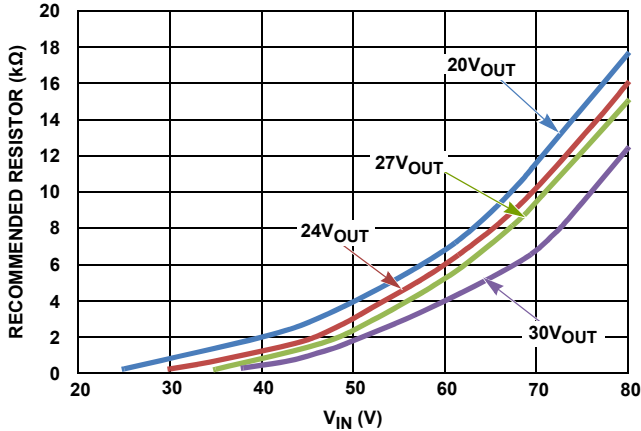
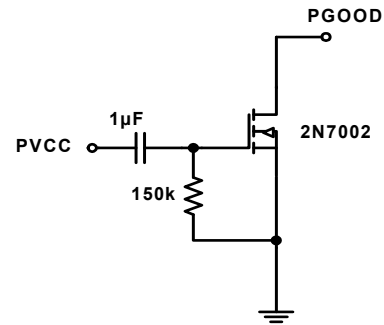

FIGURE 23. RECOMMENDED EXTERNAL RESISTOR VALUE FROM BOOT TO PVIN
FIGURE 25. PGOOD DELAY CIRCUIT
The internal bootstrap diode connected to the PVCC pin provides charge for the internal bootstrap capacitor. For above $12V_{OUT}$ applications, a resistor connecting between BOOT pin and V_{IN} pin is recommended for certain conditions. Refer to Table 3. This resistor provides additional bootstrap charge introduced from V_{IN} , which can ensure the gate drive circuit functions properly at very light load. See Figure 23 for the recommended external resistor values at $20V_{OUT}$, $24V_{OUT}$, $27V_{OUT}$, and $30V_{OUT}$ conditions. A minimum 0.25W power rating is recommended for this resistor.
For $>12V_{OUT}$ applications where V_{IN} power-up/down (module self enable/disable) is required and PGOOD signal is utilized, a PGOOD delay circuit and a $1k\Omega$, 1W rating dummy load resistor are recommended. The PGOOD delay circuit is shown in Figure 25. Note when the dummy load resistor is used, the resistor between V_{IN} and BOOT (Figure 23) is no longer required. During V_{IN} power-up (module self enable) for $>12V_{OUT}$ applications at very light load current, without such a delay circuit, V_{OUT} may have a drop after initially reaching the target due to the lack of bootstrap charge. With such a delay circuit, the PGOOD signal can be delayed for 250ms. For applications of $\leq 12V_{OUT}$, the PGOOD delay circuit is not required.
- Refer to Figure 23 for V_{IN} -BOOT resistor (R_{BOOT}) value.